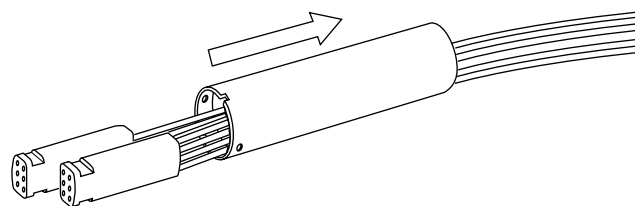

Figure 14
- Make sure that the “keys” of the loose tube sheath clamp are aligned with the slots inside the body- rotate the clamp on the cable if necessary (see Figure 14).
5.5 Slide the shell of the fan-out over the fan-out insert plugs (Figure 14). Move the shell down the furcation tubes so that it is out of the way.